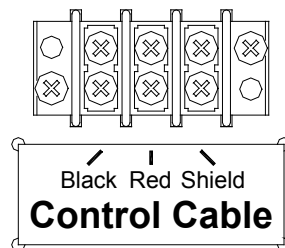

Figure 8 Control Cable Wiring Diagram
3. Connect the control cable to the **Control Cable** terminal block on the chassis according to figure 8.